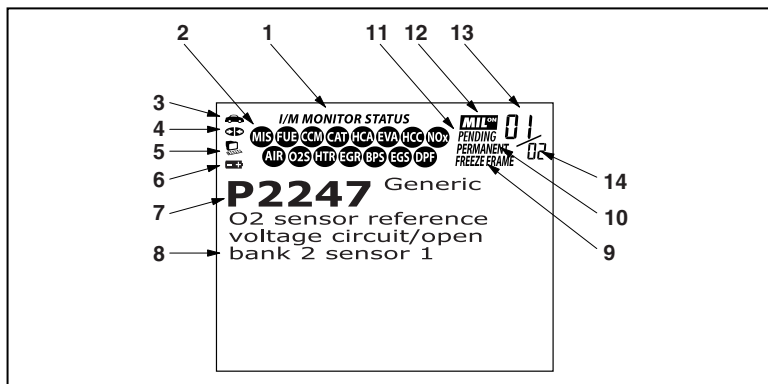

Figure 2. Display Functions
See Figure 2 for the locations of items 1 through 14, following.